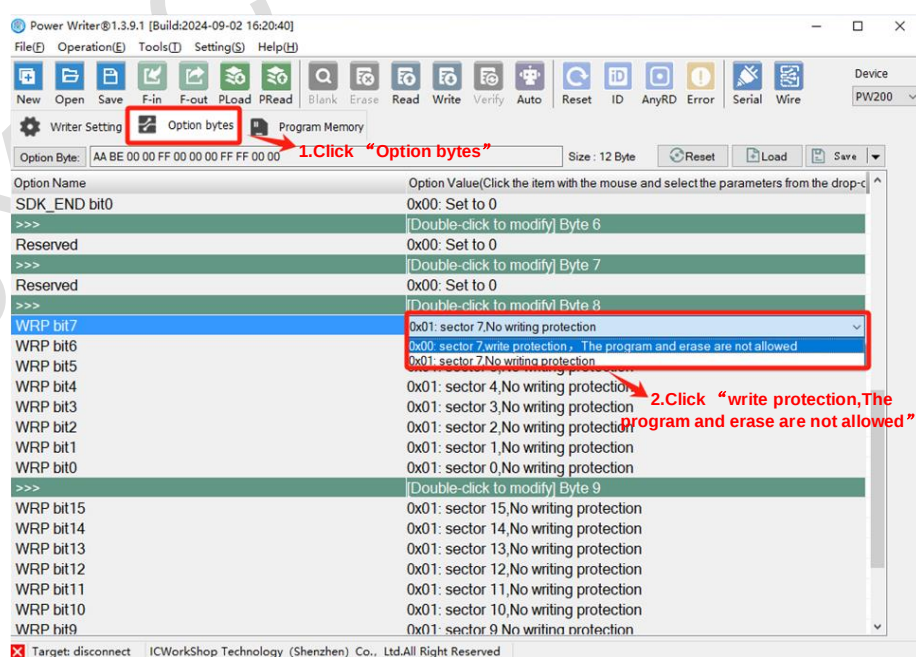
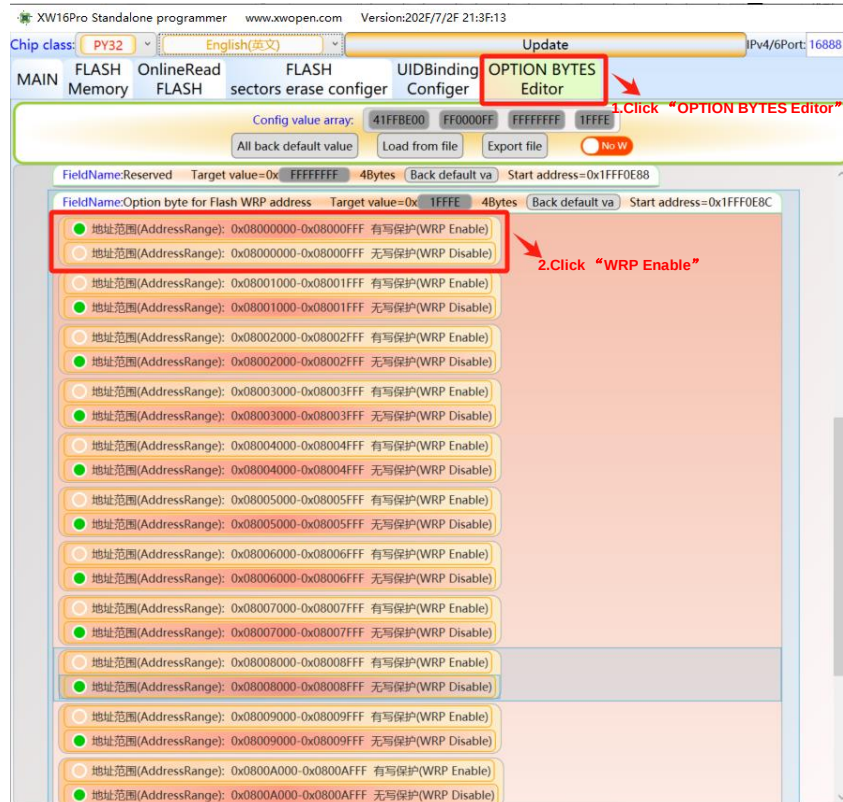

Figure 17-1 Power Write Operation Option Write Protection
Figure 17-2 XW operation Option write protection
- It is recommended that the customer program enables write protection, which is set in Option, as shown in Figure 17-1 and Figure 17-2.